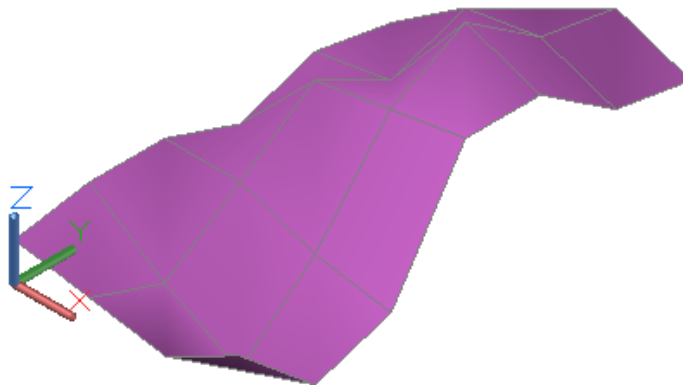

Figure Step 5
Step 5 Turn layer: Model off and the completed mesh should appear as shown in the figure. (Figure Step 5)